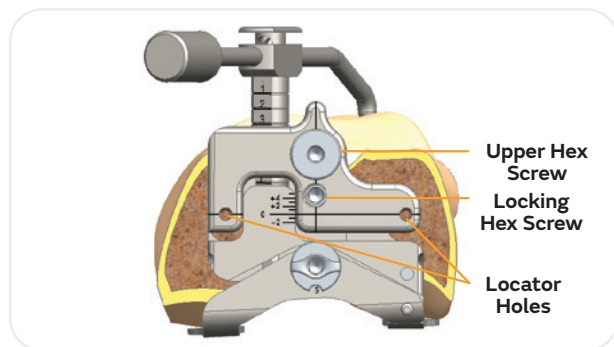
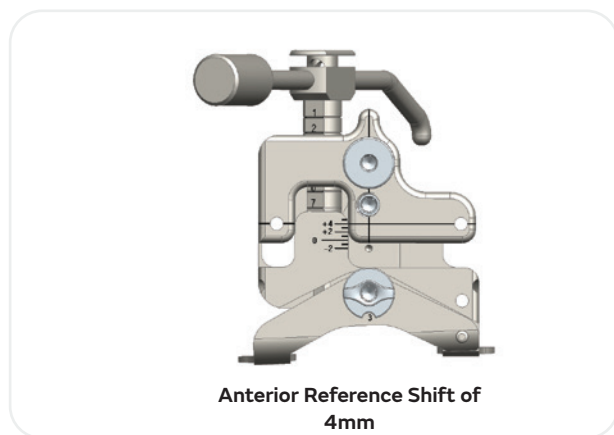

Figure 14
Figure 15a
3. Position the sizing guide stylus so that it contacts the lateral ridge of the anterior femoral cortex (highest point on the anterior cortex of the femur) (**Figure 14**).
5. If the indicated size is in-between sizes, you can turn the upper hex screw to shift the anterior surface up to an additional 4mm to the next smaller size or down an additional 2mm to the next larger size (**Figures 15a and b**). Once the appropriate size is selected, turn the locking hex screw to lock the anterior surface and locator holes into position (**Figure 14**).